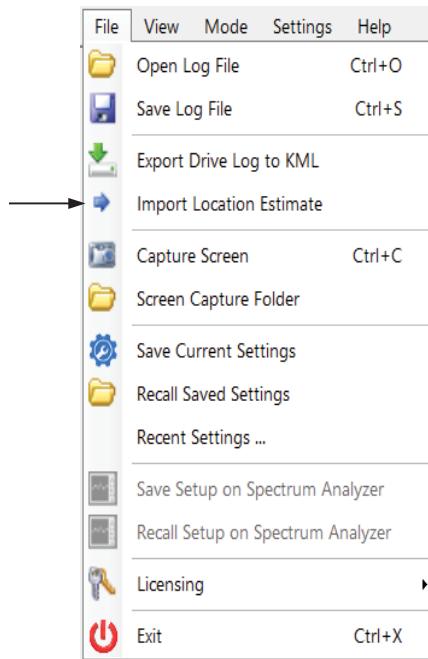

**Figure 4-16.** Import Location Estimate
1. Click Import Location Estimate from the file menu as shown in Figure 4-16.